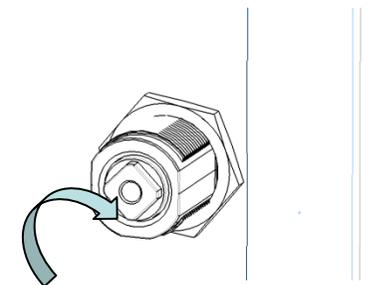

Figure 2.
3. Holding the lock in position, add the locking nut and tighten to secure as shown in Figure 2.